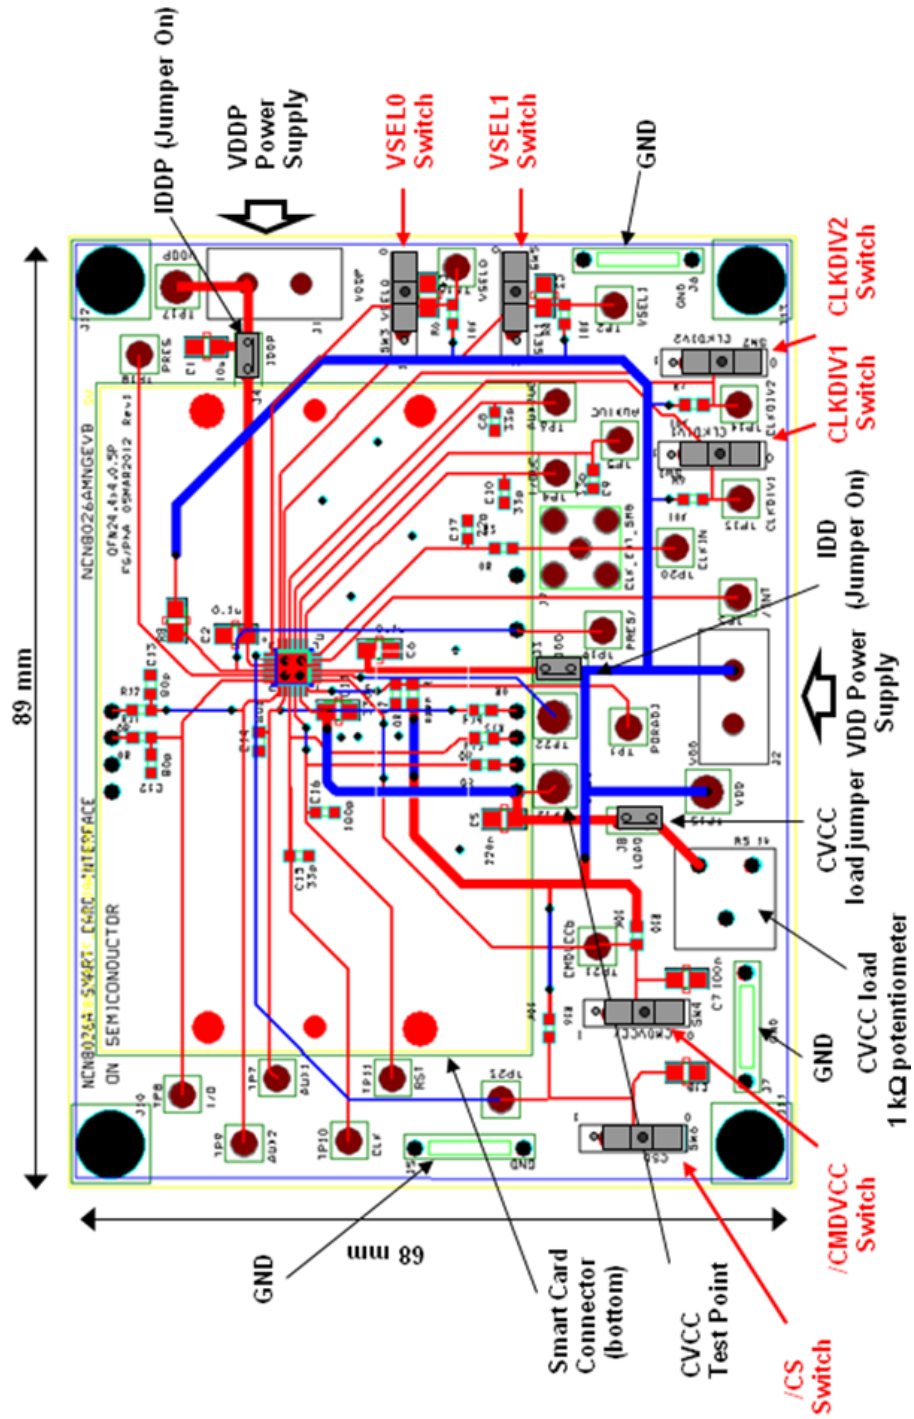

Figure 2. Board Description
Refer to Figure 2 for an overview of the main features of the evaluation board.
- VSEL0 and VSEL1 are used to change the output CVCC (card power supply) or the smart card interface mode which can be 1.8 V, 3.0 V or 5.0 V. Change VSEL0 and VSEL1 using the switches (see Figure 2) according to Table 2 below. When VSEL0 = 0 then VSEL1 is in the mode 5 V / 3 V_{bar}, when VSEL0=1 then VSEL1 is in the mode 1.8 V / 3 V_{bar}. The initial setup can be VSEL0 = 0 and VSEL1 = 1 for selecting the 5 V mode. The CVCC output voltage can be changed on the fly when the smart card interface is active (/CMDVCC = Low). Nevertheless, it is recommended to change CVCC after having deactivated the device then reconfiguring CVCC by setting the appropriate VSEL0 and VSEL1 and reactivating the smart card interface.